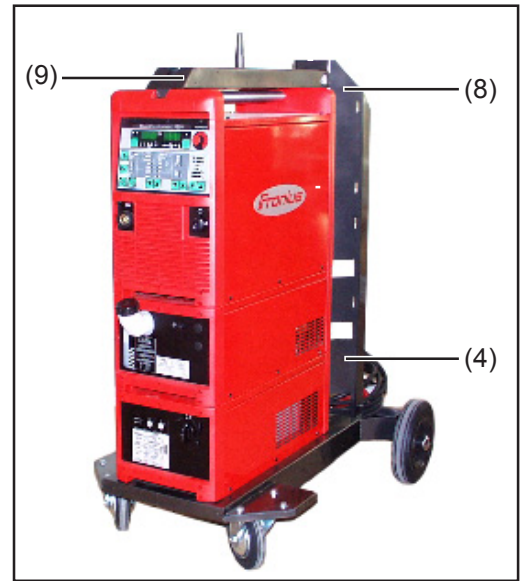

Fig.18 Trolley with autotransformer, cooling unit and power source
2. Carefully place the cooling unit onto the autotransformer (Fig.18)
6. Carefully place the power source onto the cooling unit (Fig.18)